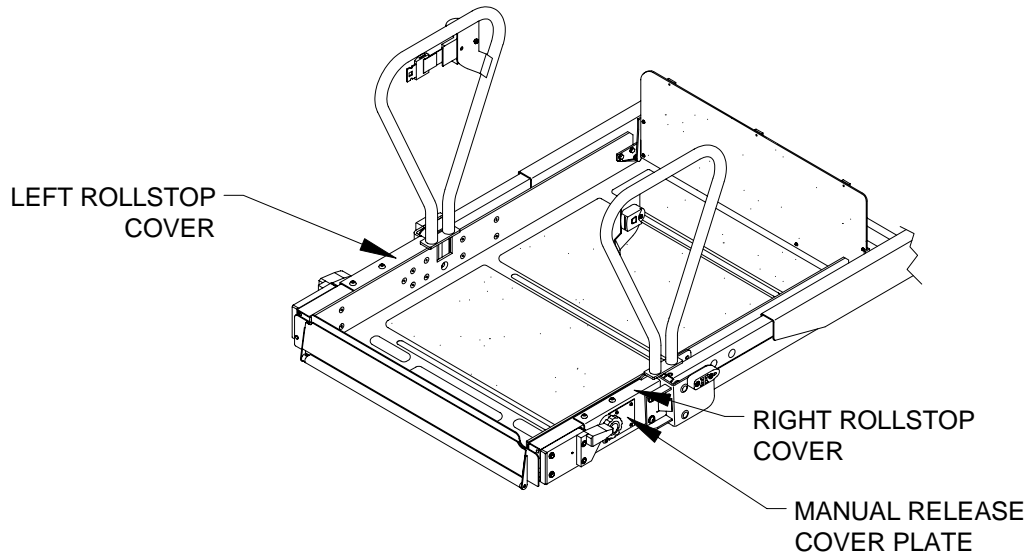

FIGURE 4-3: ACCESS COVERS FOR ROLLSTOP MECHANISM
- 3) Refer to **Figure 4-3**. Remove manual release cover plate from right side (four screws).